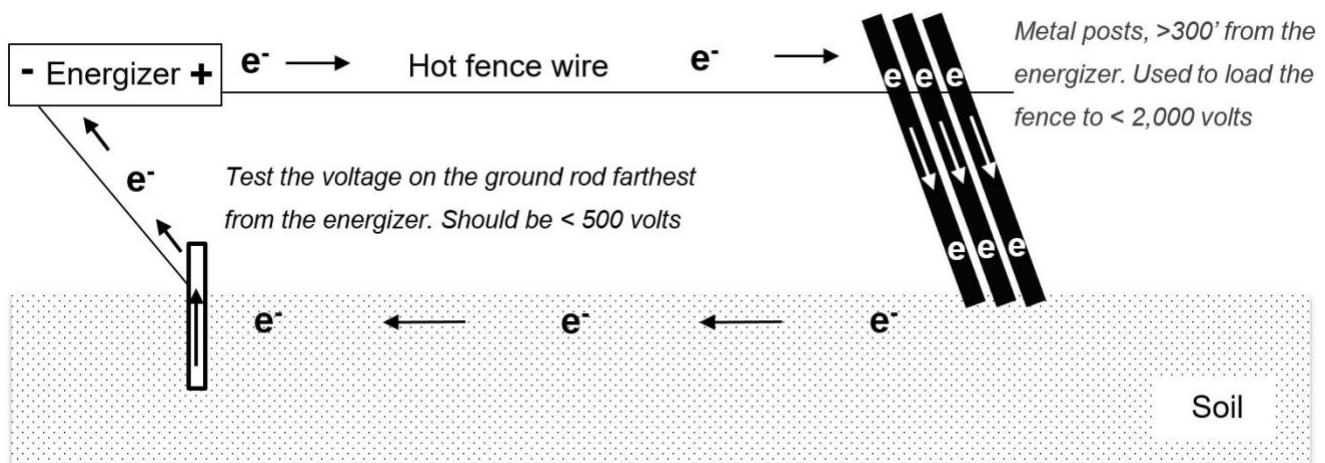

Figure 3. How to test a grounding system.
1. *First, turn off the energizer.* Use multiple metal posts placed against the fence wire at least 300 feet from the energizer to load down the fence until you obtain 2,000 volts or less on the fence (figure 3). This is an important step. Loading down the fence allows electrons to flow into the soil so you can test the capability of your grounding system. The amps reading on the fence will increase as the voltage decreases. *Turn the energizer back on.*